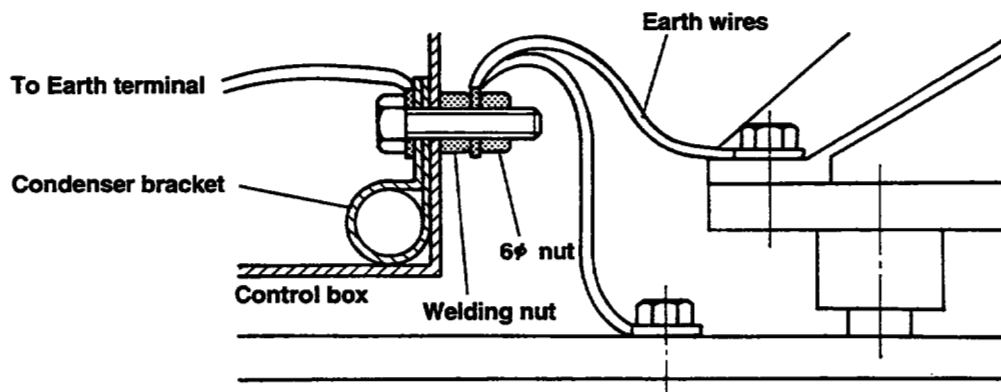

Fig. 10-48
- (2) Install regulator, oil sensor unit, condensers, and diode rectifier into the control box.
- (3) Connect the wires of control panel components and control box. Fasten the earth wires to the rear of the control box using a 6 ϕ nut to the bolt which fixes the condenser bracket to the inside of the control box. (See Fig. 10-48.)
- (4) Attach the control panel to the control box.